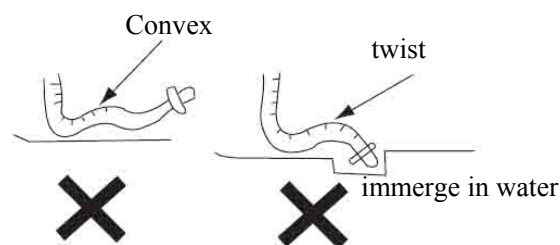

Fig.11-2
- Do not twist, bend or heave the drain hose or immerge its end into water (as shown in Fig 11-2)